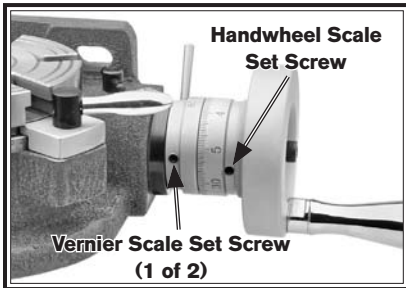

Figure 9. Locations of the handwheel and vernier scale set screws
1. Loosen the two set screws on the vernier scale (see **Figure 9**), rotate the vernier scale so that it is in a convenient viewing position, then re-tighten the set screws.
3. Loosen the set screw on the handwheel (see **Figure 9**), rotate the handwheel scale until the 0° mark aligns with the 0° mark on the vernier scale, then re-tighten the set screw.